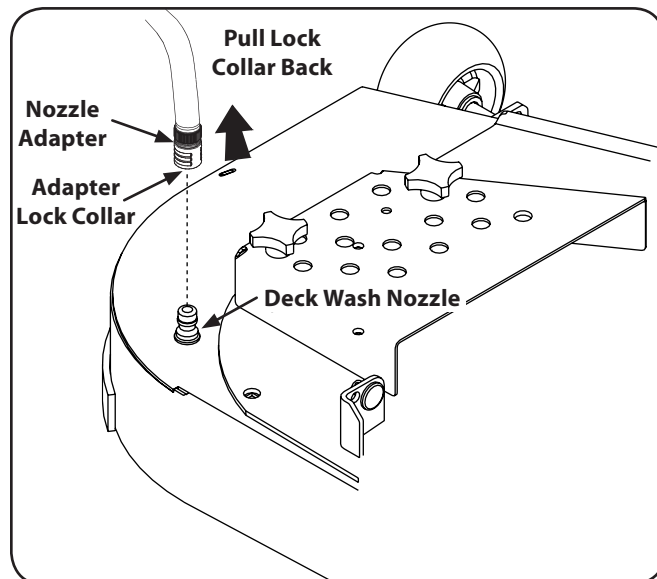

Figure 6-5
3. Pull back the lock collar of the nozzle adapter and push the adapter onto one of the deck wash nozzles at either end of the mower deck. Release the lock collar to lock the adapter on the nozzle. See Fig. 6-5.